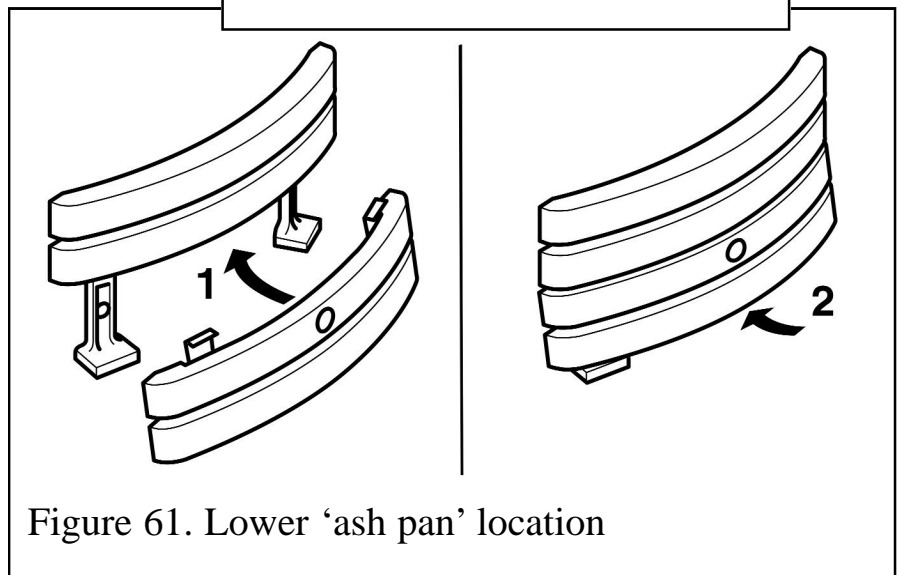

Figure 61. Lower 'ash pan' location
4. The lower 'ash pan' casting should be located as in figure 61.